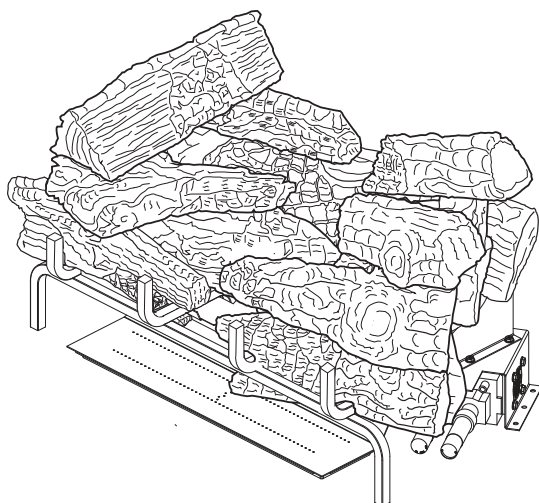

Figure 48 - Final Assembly
12. Final Assembly is shown in **Figure 48, Page 23**.